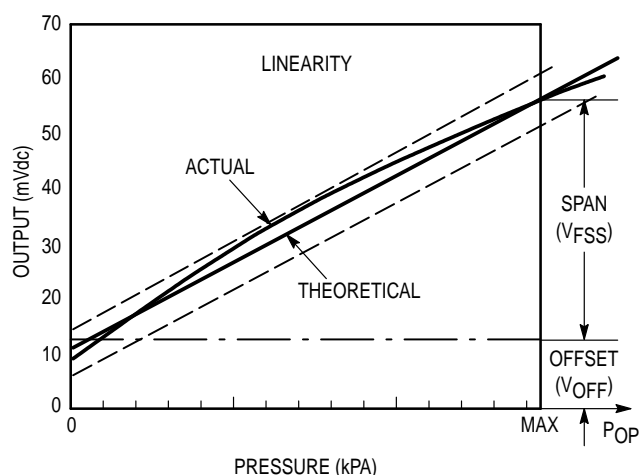

Figure 3. Linearity Specification Comparison
Linearity refers to how well a transducer's output follows the equation:  $V_{\text{out}} = V_{\text{off}} + \text{sensitivity} \times P$  over the operating pressure range (see Figure 3). There are two basic methods for calculating nonlinearity: (1) end point straight line fit or (2) a least squares best line fit. While a least squares fit gives the "best case" linearity error (lower numerical value), the calculations required are burdensome.